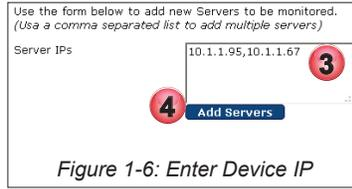

Figure 1-6: Enter Device IP
3. Enter the IP address of the Remote Device, separated with commas if there is more than one, Figure 1-6.